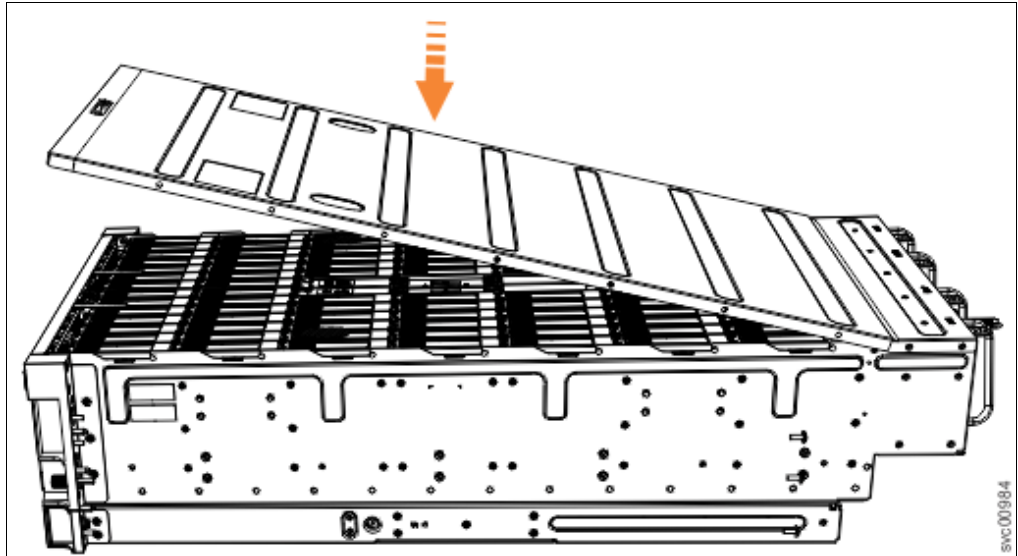

Figure 6-18 Aligning the expansion enclosure top cover
- a. Carefully lower the cover and ensure that it is aligned correctly with the back of the enclosure, as shown in Figure 6-18 on page 181.